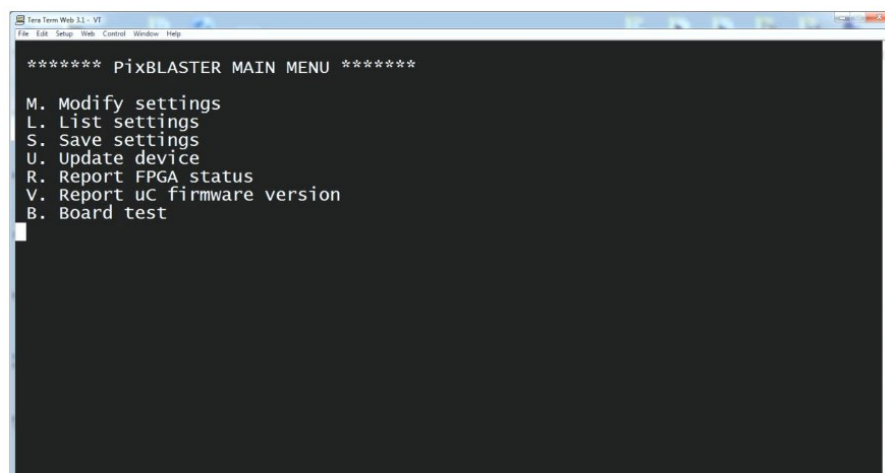

Figure 4. The Pixblasters User' Menu in the Serial Terminal Window
- The Pixblasters User's Menu should pop-up in the serial terminal window (Figure 4)